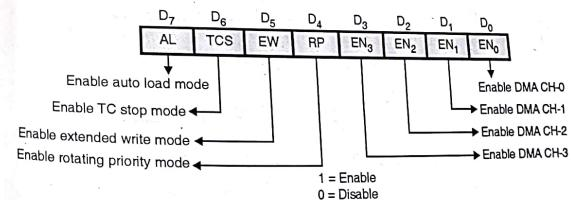

Fig. 17.13.2 : Mode set register
- The format of mode set register is shown in Fig. 17.13.2.